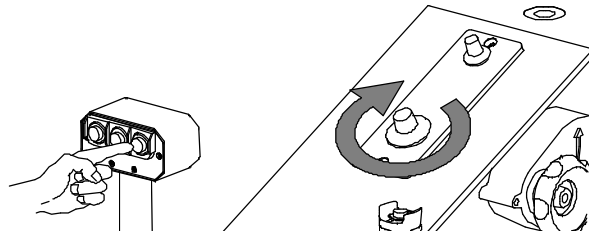

Fig. 14
e) The pushbutton No.3 (Fig. 14), on the right, is used to cut materials particularly difficult to cut by means of tools with a great linear development. Furthermore it is possible to gradually increase its value by means of the potentiometer shown in the picture till reaching the maximum power of the machine.